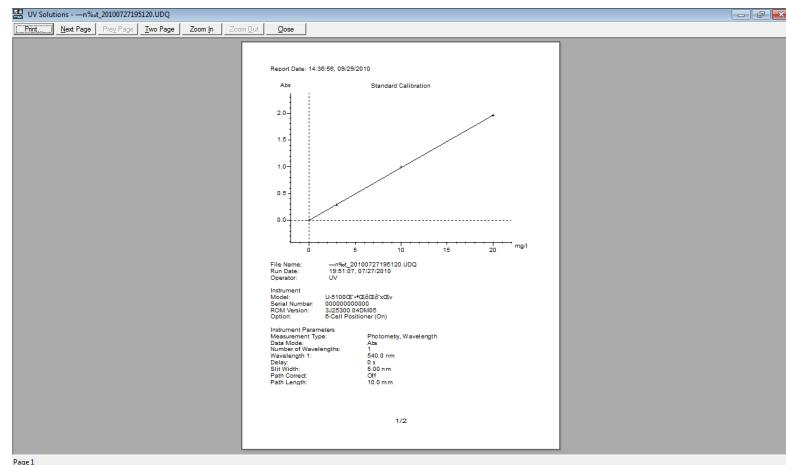

Fig. 4-78
- (2) Click the  (Report) button on the DataProcess toolbar, and the Print Preview window as shown in Fig. 4-78 will appear. (Or from the Data menu on the menu bar, select the Report command.) For printout on a printer, click the **Print** button. In this case, measurement conditions will also be printed.